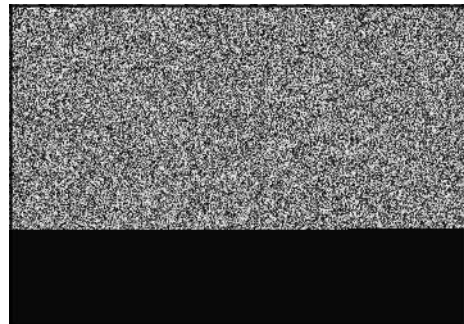

Figure 10
2. Install the screws (A, Figure 10) and the control panel trim torquing the screws to values listed in Section 12 - Engine Specifications.